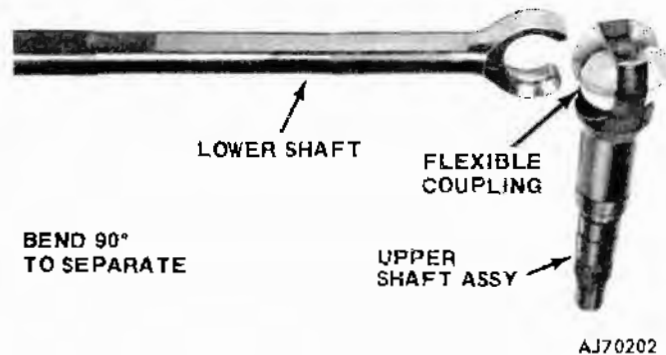
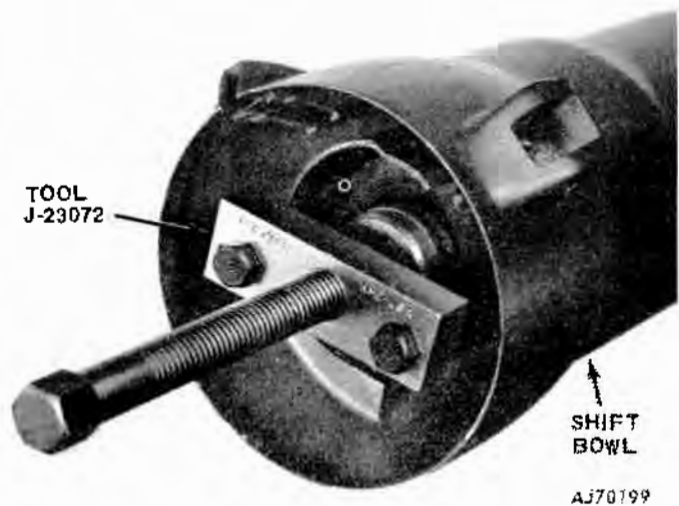

Fig. 11-24 Flexible Joint
Fig. 11-25 Shift Tube Removal
(32) Remove steering shaft from top of column. Flexible joint may be disassembled by folding the shaft 90° (fig. 11-24).
- (33) Remove ignition switch.
- (34) Remove neutral safety and back up switch.
- (35) Remove lock rack and rod.
- (36) Remove lower bearing retainer snap ring, retainer, bearing and adapter.
- (37) Remove upper support attaching screws and upper support. Remove shift gate pin and shift gate.
- (38) Remove shift tube retainer ring and thrust washer.
- (39) Remove shift tube using Shift Tube Remover Tool J-23072 (fig. 11-25).